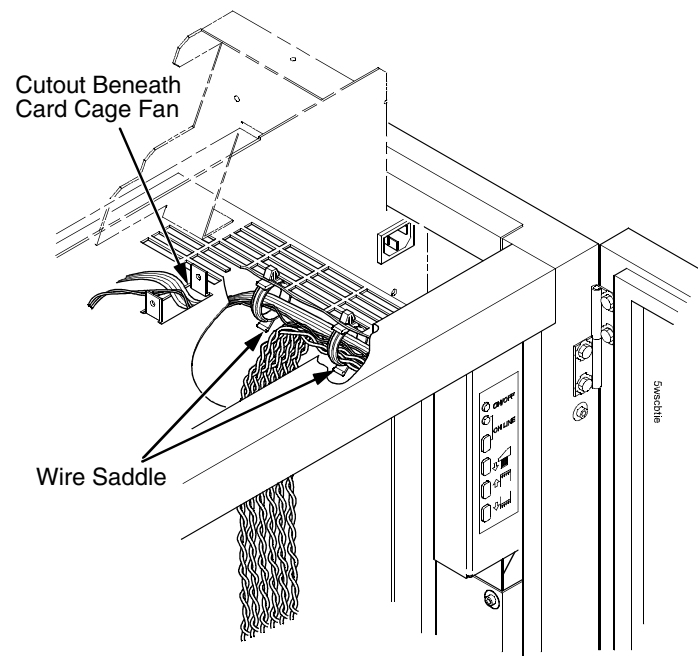

Figure 79. This figure shows how to bundle and route the stacker cables beneath the card cage and behind the operator panel.
32. Bundle the stacker operator panel cables in the wire saddles located under the card cage. Tie wrap the cables so they do not catch in the stacker mechanism as it moves up and down. Route the stacker rail and frame cables so they move without snagging as the elevator assembly moves up and down. (Figure 79.)